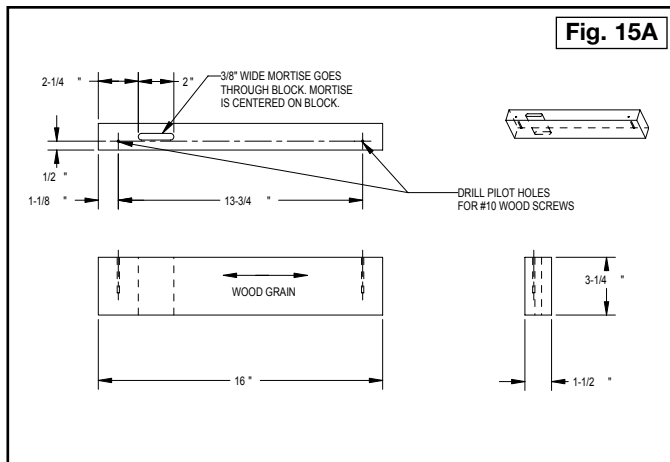

Fig. 15A
Step 1 - Make a main clamping board 1-1/2" x 3-1/4" x 16". Square all of the sides. Make a mortise through the board and drill pilot holes for #10 wood screws (Fig. 15A).